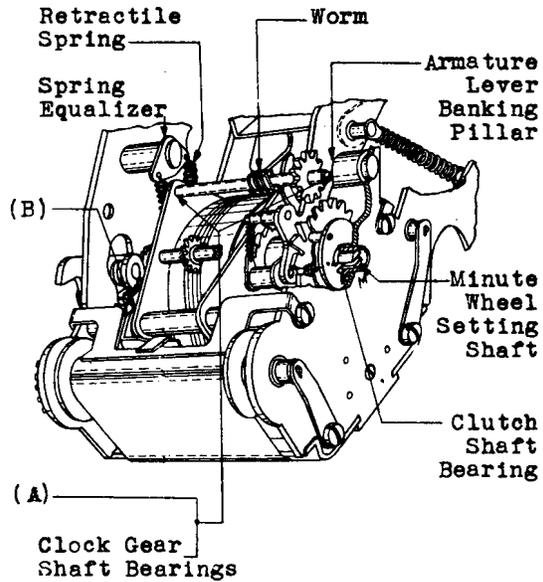

Fig. 3
- Stamping Mechanism and Clock Gear Shaft Bearings - Fig. 3 (A)
- Lift Lever Bearings - Fig. 3 (B)